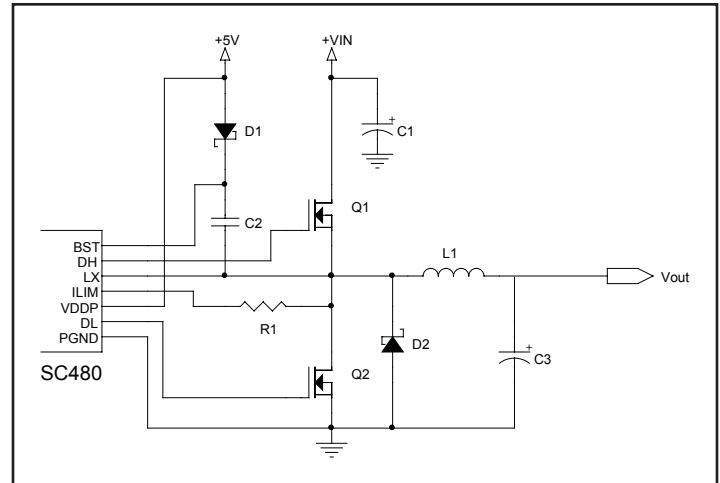

Figure 4
The schematic of RDS(ON) sensing circuit is shown in Figure 4 with RILIM = R1 and RDS(ON) of Q2.